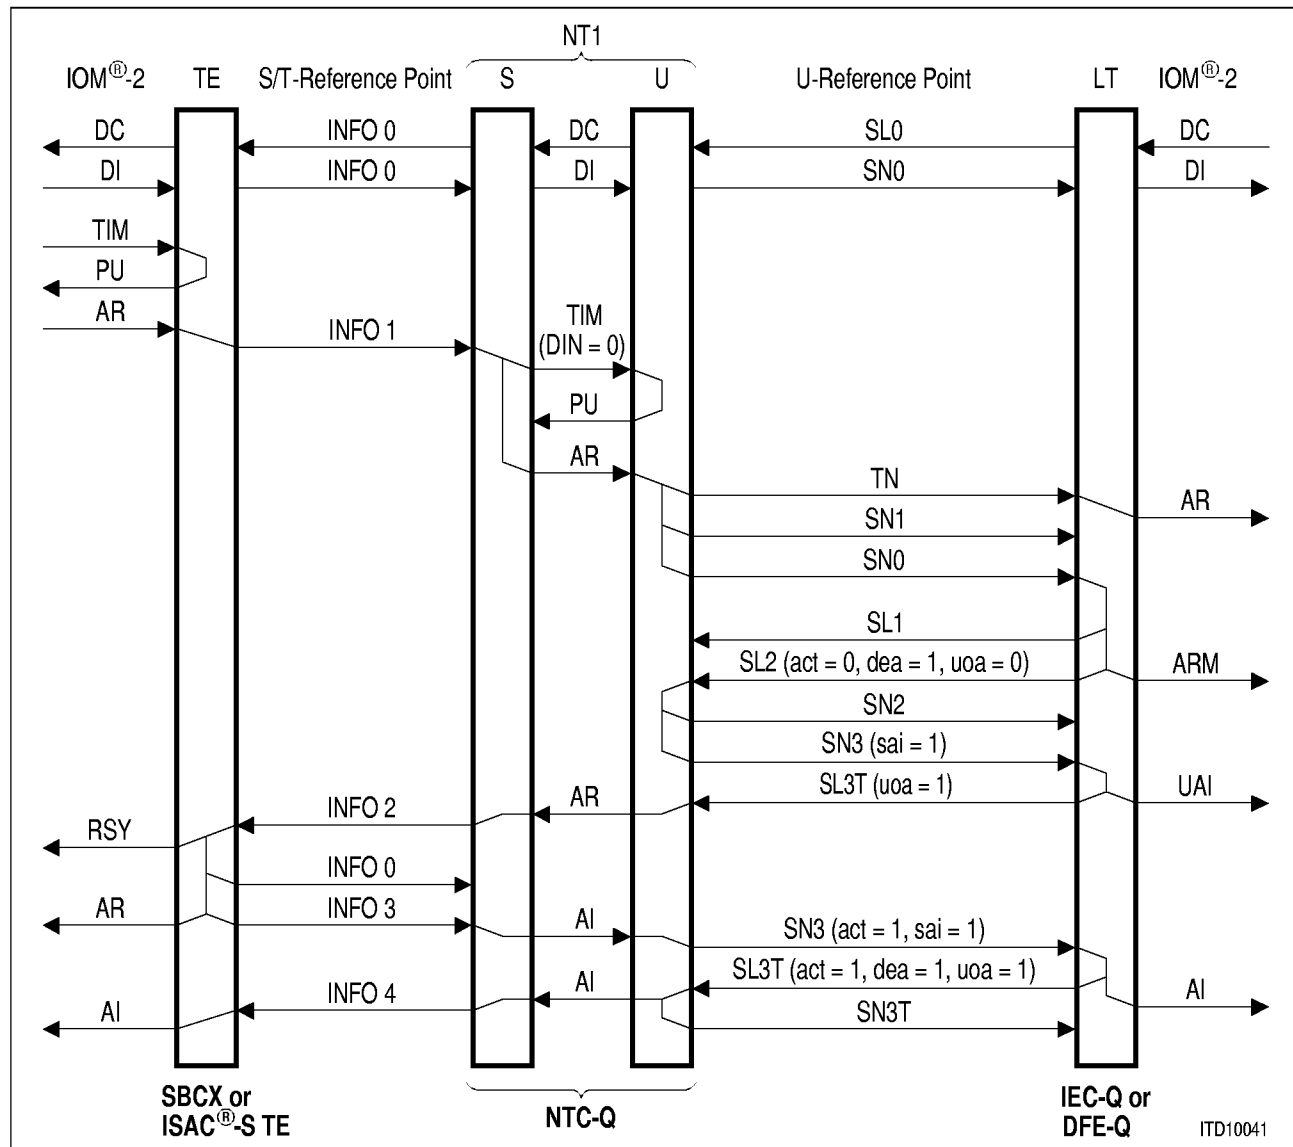

Figure 30 Complete Activation Initiated by Terminal (TE)
Figure 30 depicts the procedure if activation has been initiated by the terminal side (TE).